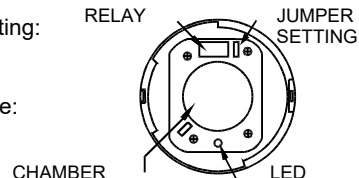

Fig. 3 Schematic of detector structure when front cover is open.
- The reset position for the relays is at "normal open" (NO) position, when energizing all the relays.
- If one needs to adjust the relay set point, use a screwdriver to push up the rectangular hole located on the side between the front cover and base to remove the front cover. See figure 3. There is a jump head next to the relay on the PCB, adjust it to select set point either "normal close" (NC) or "normal open" (NO) position.